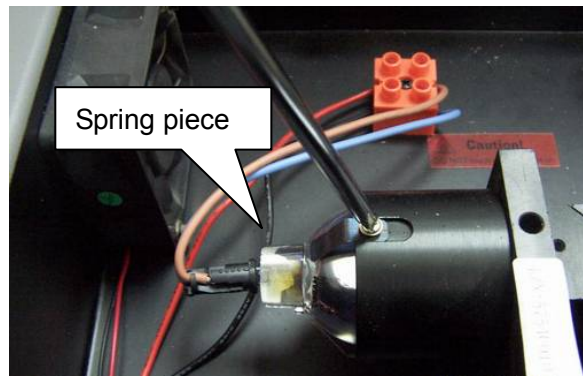

Figure 3-9
- 2、As shown in figure 3-9, remove the screw and spring piece which fix the lamp, press the lamp down slightly, take off the lamp form lamp socket, disconnect the wires on lamp, replace a new lam and connect the wires again.